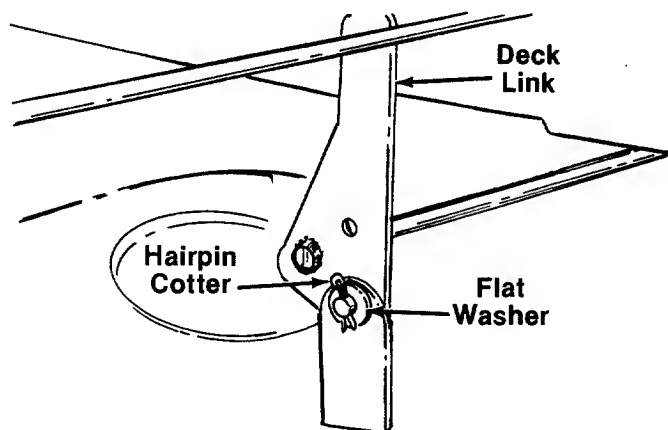

FIGURE 26.
10. Remove the three hairpin cotters and flat washers which hold the deck links to the rider. Two are located at the rear of the deck. See figure 26. One is located at the front of the deck.